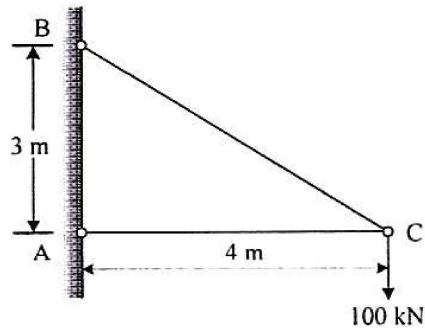

Fig. 3
3. (a) Find the vertical deflection of joint C of the truss shown in Fig. 3. The area of inclined member is 2000 mm^2 while the area of horizontal member is 1600 mm^2 . Take $E = 200 \text{ kN/mm}^2$. [6]